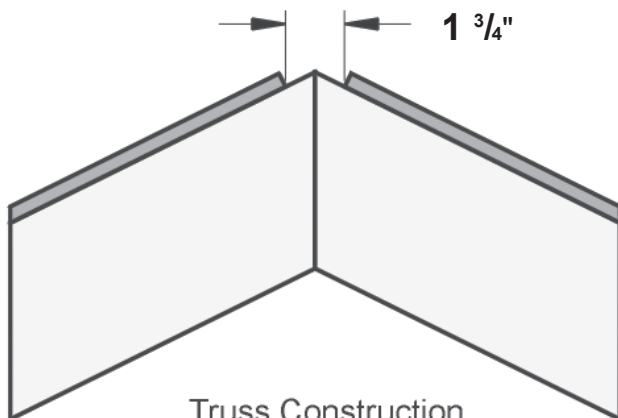

Figure 1
STEP 2 - The width of the cut will depend on whether your home is built with "Truss Construction" (1³/₄" wide cut) or "Ridge Pole Construction" (3¹/₄" wide cut). If you are not sure, look into the attic and compare the ridge construction to Figures 1 and 2.